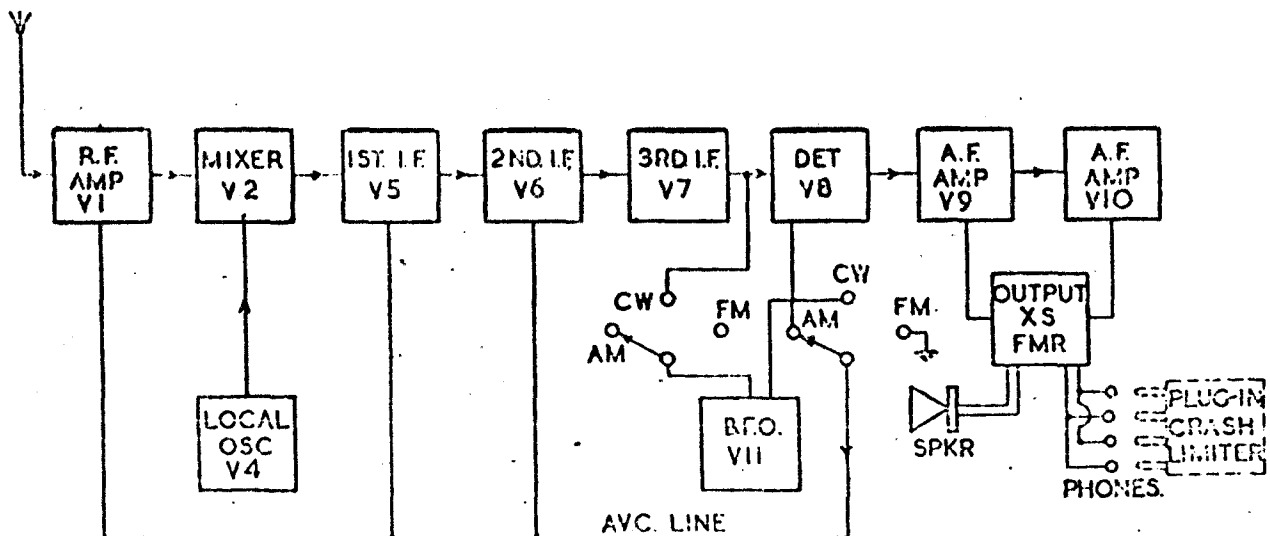

FIG. 5 - BLOCK DIAGRAM .
8. Brief technical description (See Fig. 5)